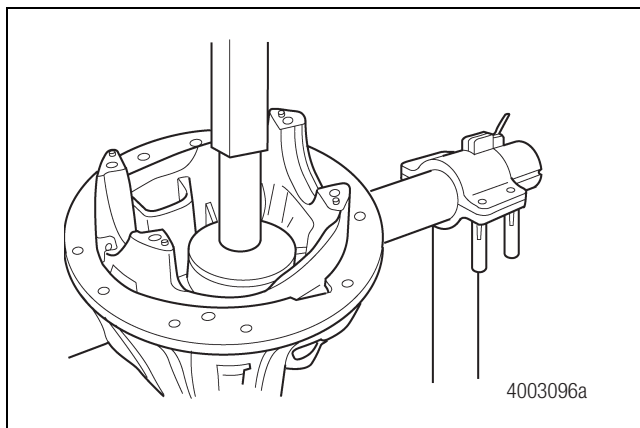

Figure 4.15
3. Use a pinion bearing cup driver, tool drawing number 5023, to install the shim and press the inner bearing cup into the carrier housing. Figure 4.15. Refer to Section 8, Figure 8.3, for instructions to build the tool.